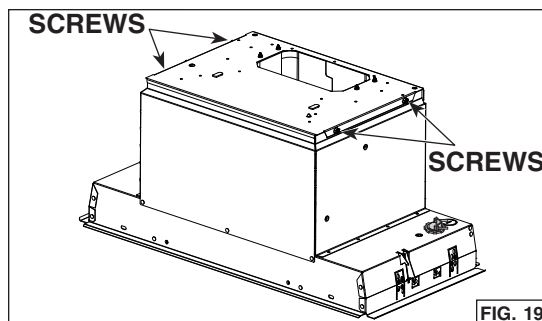

FIG. 19
7. Remove the 4 screws (two per side) retaining the blower support plate to the top of the unit (FIG. 19). Carefully lift out and set aside the blower with its support plate. The blower will be reinstalled later in the unit.